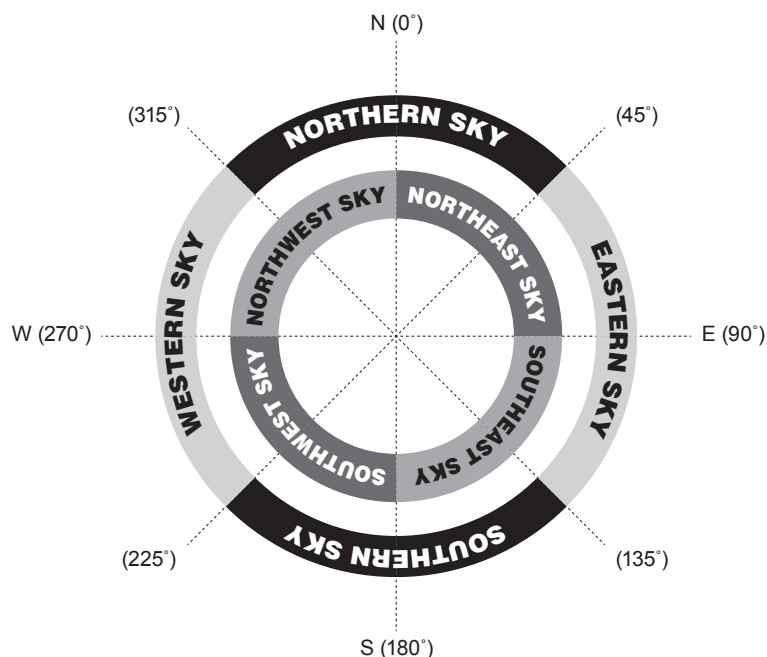

Fig. 3.4a
2. The hand control displays **"Select Region"**. Use the scroll keys to pick one of the eight regions shown in Fig 3.4a, which matches the horizontal region of the brightest star. Press **ENTER** to confirm selection and proceed to the next step.